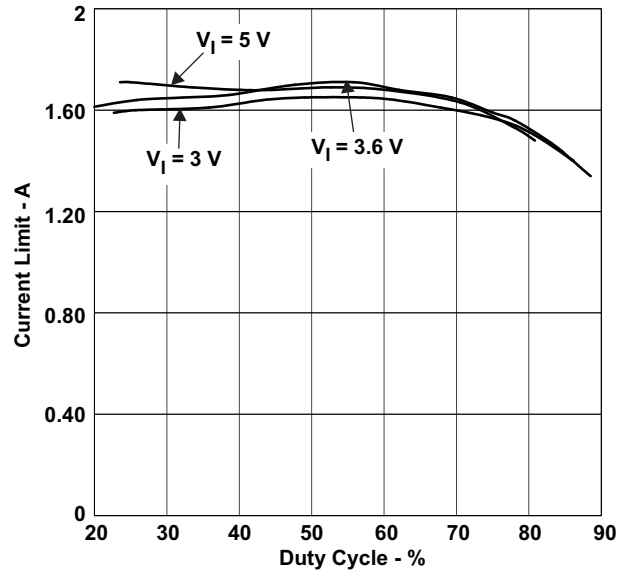

Figure 9.
(1) VIN = 3.6 V, Vout = 15 V, Duty cycle = 76%. See Figure 6 to Figure 9 for other operation conditions.
(2) OUT short circuit condition is detected if OUT stays lower than VIN – Vsc for 2 ms after IC enables.
To minimize the variation in the overcurrent limit threshold, the TPS61080/1 uses the VIN and OUT pin voltage to compensate for the variation caused by the slope compensation. However, the threshold still has some dependency on the VIN and OUT voltage. Use Figure 6 to Figure 9 to identify the typical over-current limit in your application, and use 25% tolerance to account for temperature dependency and process variations.